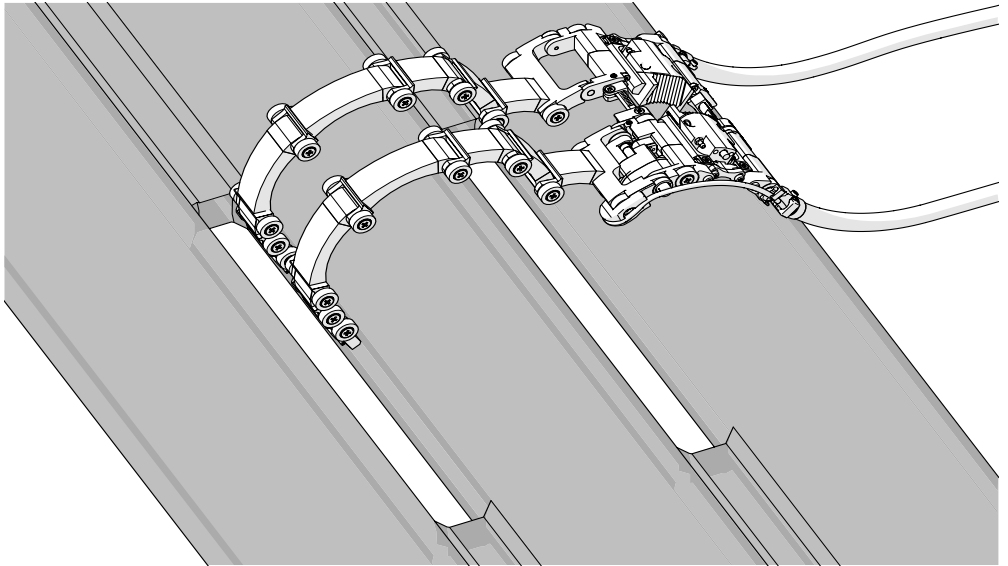
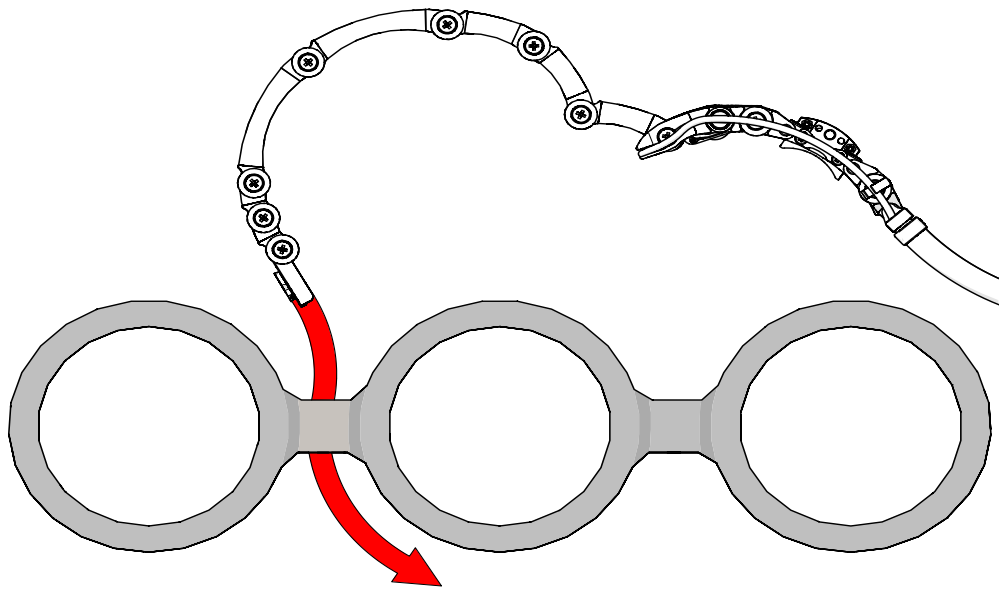

Fig. 88 - Position links as illustrated
Fig. 89 - Position links as illustrated
1. Shape the links and wheels to a slight curve not including the scanner body (Fig. 88) and (Fig. 89).